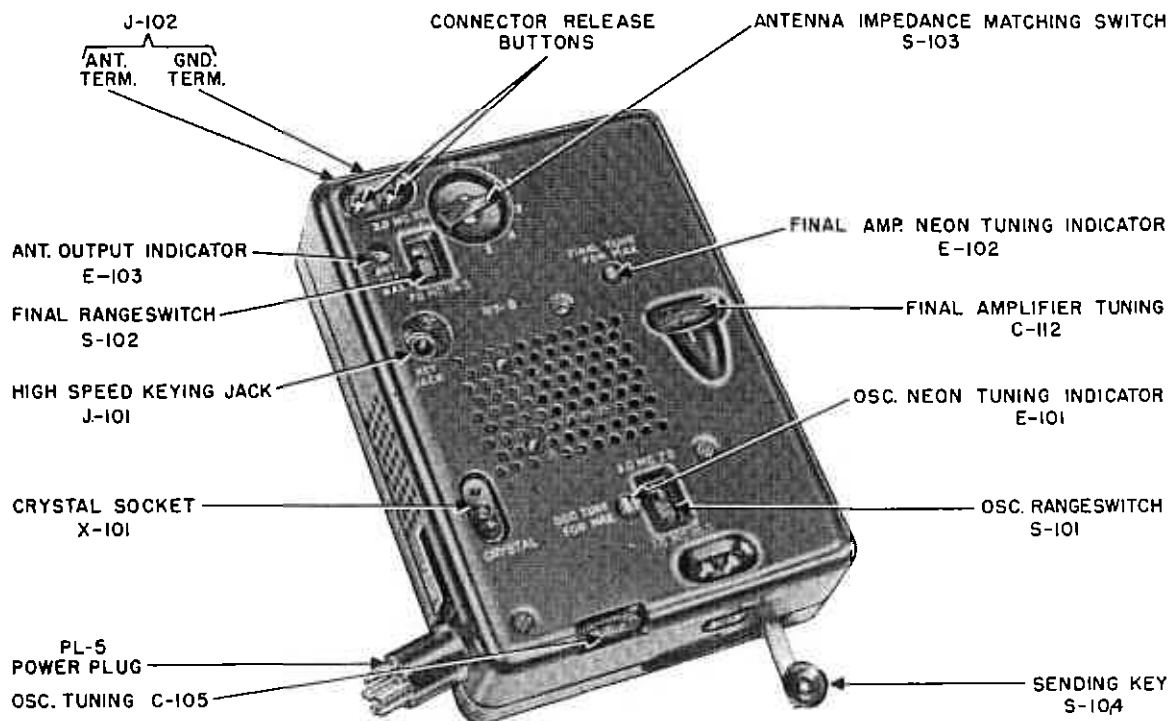

Figure 9. Transmitter RT-6 showing control locations
12. CONTROLS AND FUNCTIONS—(See Figure 9)
16. TUNING — (Refer to Figure 9)
(1) by the attached sending key (Figure 9). A keying speed not exceeding 40 wpm (words per minute) may be attained.
(2) by inserting a semi-automatic (bug) key half-way into the KEY JACK (Figure 9) and leaving the attached sending key out. A keying speed not exceeding 40 wpm may be attained.
(3) by completely inserting an automatic tape keyer into the KEY JACK (Figure 9) and leaving the attached sending key out. A keying speed not exceeding 60 wpm may be attained.